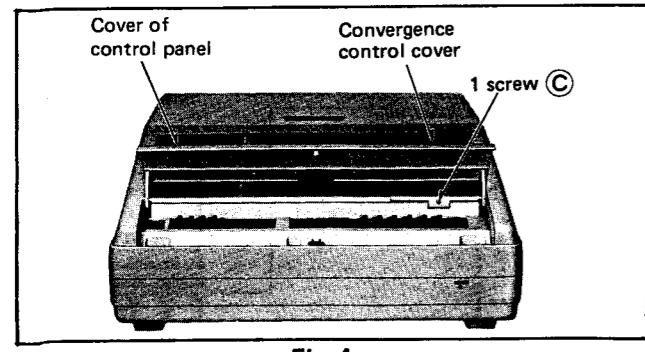

Fig. 4
- 2) Remove a 1 screw **C** in fig. 4.